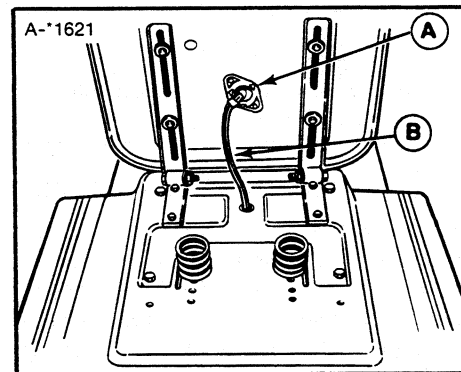

Figure 7B.
Check the seat switch (A, figure 7B) every fall and spring with the following three tests. Make sure the wiring harness (B) is securely plugged into the switch.